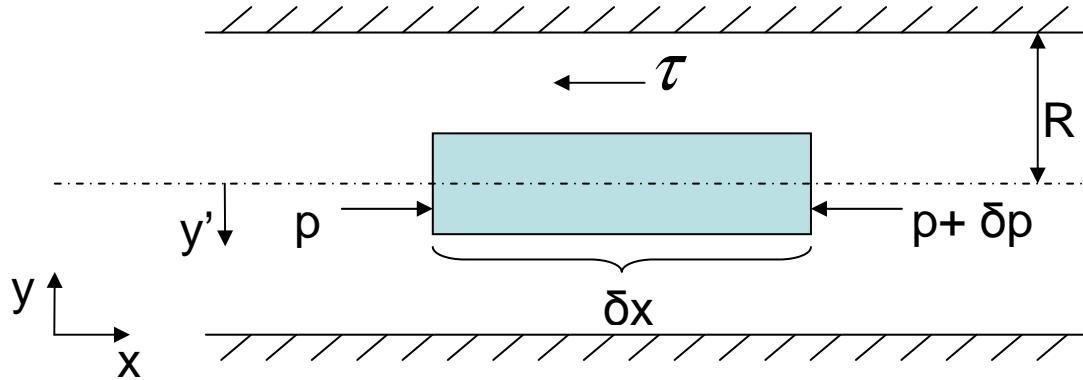

Fig. 1
- (1) Plane Poiseuille Flow: Consider the flow between two infinitely wide plates, driven by a pressure gradient, as shown in Fig. 1. 'b' is the width of the element of fluid consider in the 'z' direction.